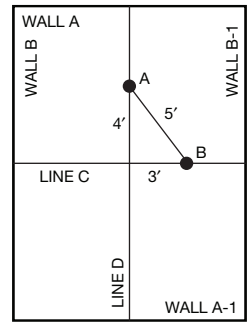

Figure 5
• Find the center of the room by snapping a chalk line (D) from the middle of Wall A to the middle of Wall A-1. Then snap a second chalk line (C) from the middle of Wall B to the middle of Wall B-1 (Figure 5). Check to make sure you are square in the center of the room. To do this measure 3' down line C and 4' down line D (Figure 5). The diagonal distance between points A and B should be exactly 5'. If the measurement is not exactly 5', adjust line C until the diagonal measurement is exactly 5'.